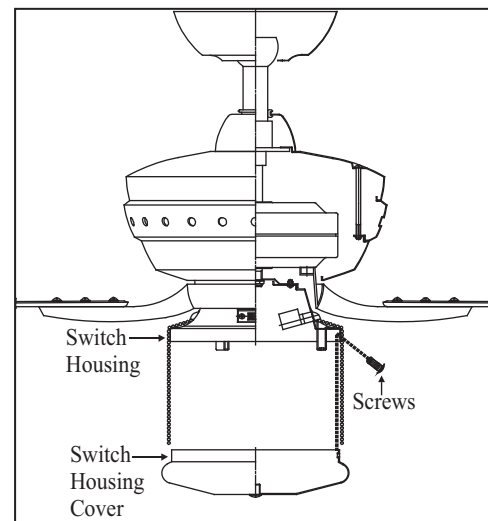

Figure 19
1. Your fan is designed with light kit, we also prepare a empty switch box cover for your choice in case you intend to install the fan without light kit, attach the switch housing cover to the switch housing with the screws provided. (Fig.19)